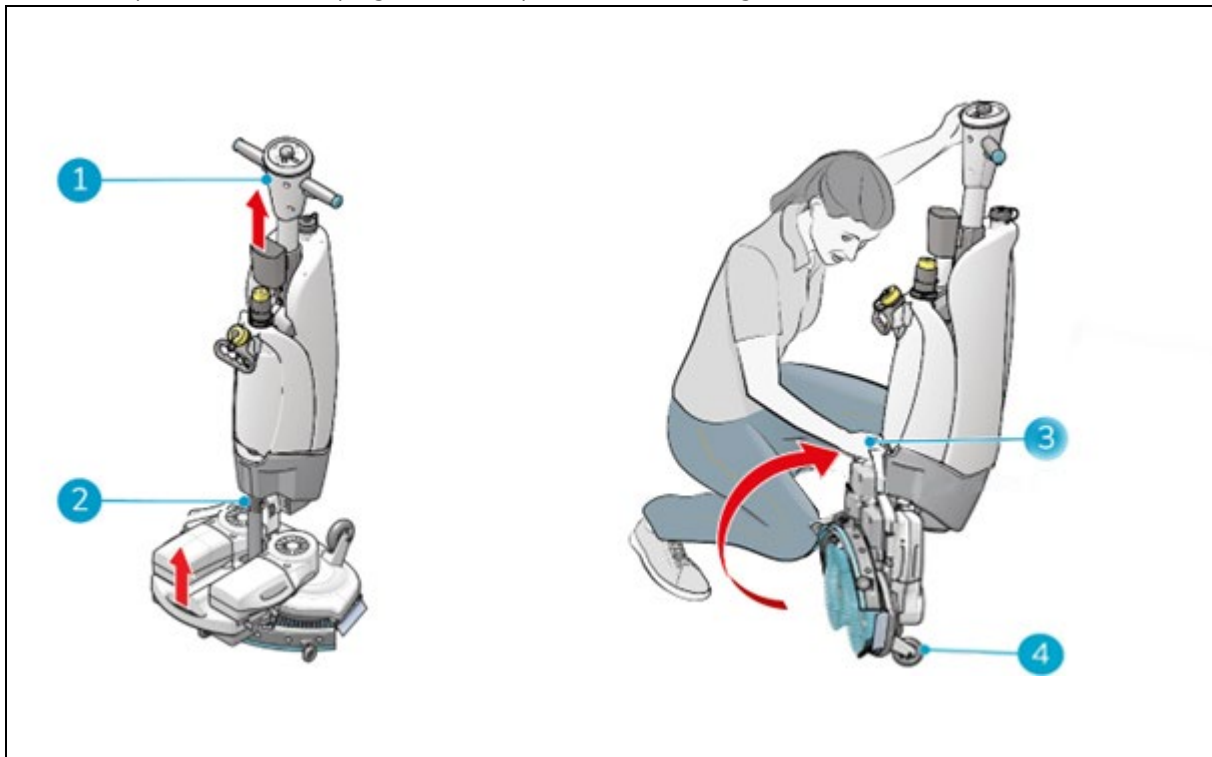

Figure 4
1. Make sure the vacuum hose (Figure 4, pos 2) is pushed back into the machine so it cannot get squeezed.
2. Crouch down and hold the handle (Figure 4, pos 1) with one hand while holding the scrub deck (Figure 4, pos 3) with your other hand.
3. Lift the scrub deck slowly until it stands upright on the front wheels (Figure 4, pos 4). Guide the body towards the scrub deck until it snaps into a resting position.